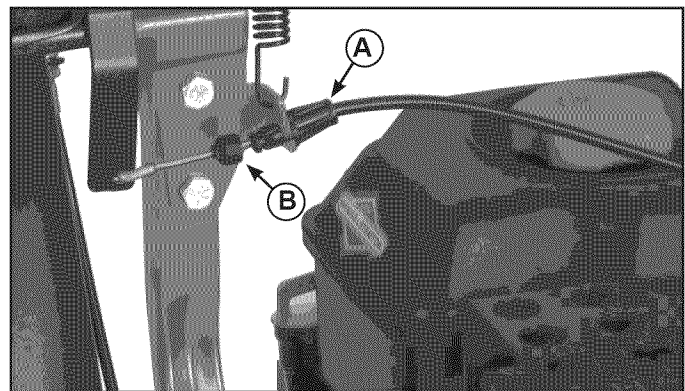

Figure 13. Chute Rotator Cable
5. Slide chute rotator cable (A, Figure 13) between slot in bracket and push forward to lock in place.
6. Slide rubber dust cover (B) over plastic fitting.